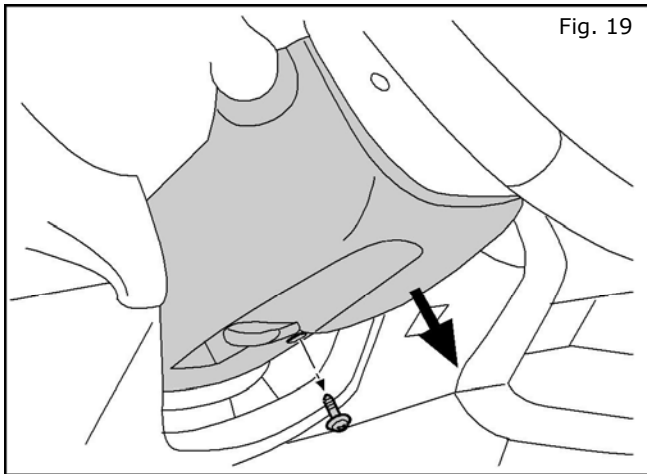

Fig. 19
26. **Reinstall** the lower steering finisher (see Fig. 19).